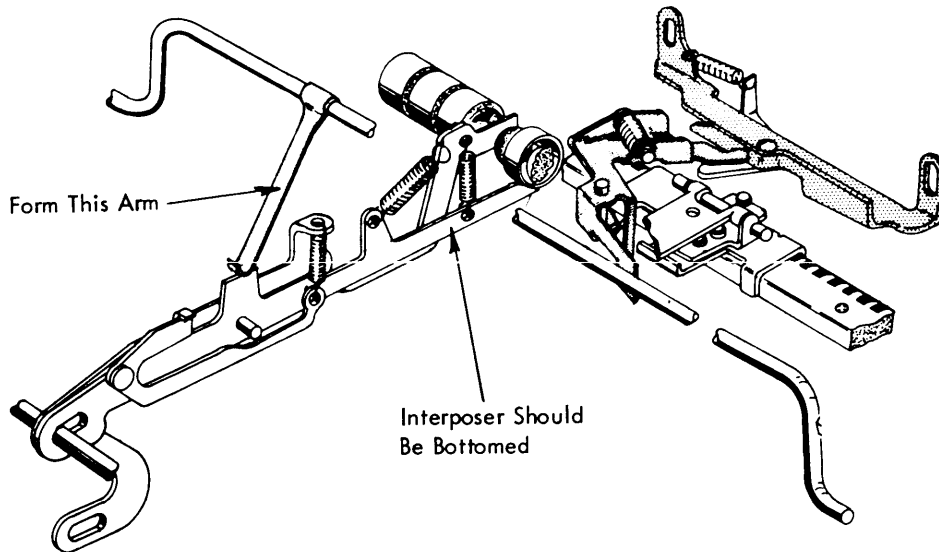

FIGURE 178. Line Lock Adjustment
8. Line Lock - Form the line lock actuating arm on the bell-ringer bail so that the line lock interposer is fully depressed when the carrier pointer is in line with the mark on the right hand margin stop (Fig. 178).